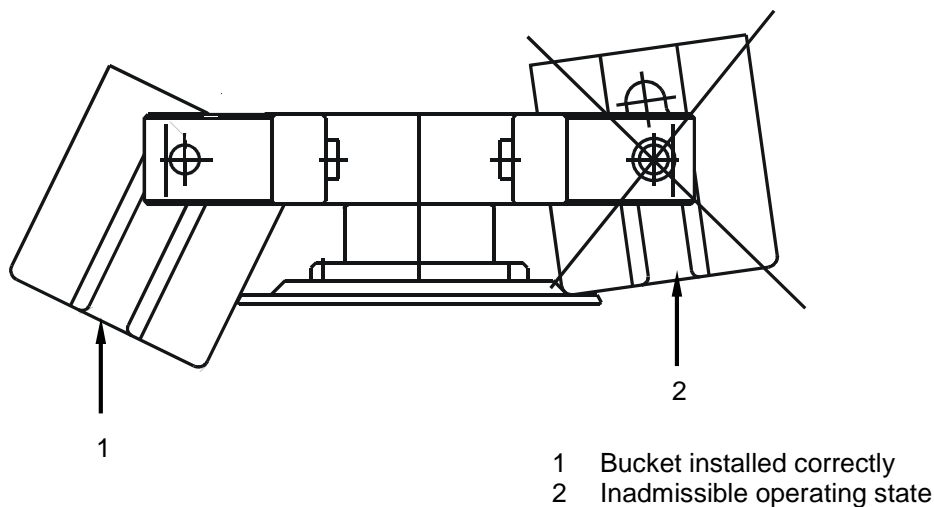

Fig. 2.3: Fitting of the buckets
- Ensure that rotor and buckets are correctly fitted (see 5.2.3 "Installation of Rotors", page 29 and Fig. 2.3).